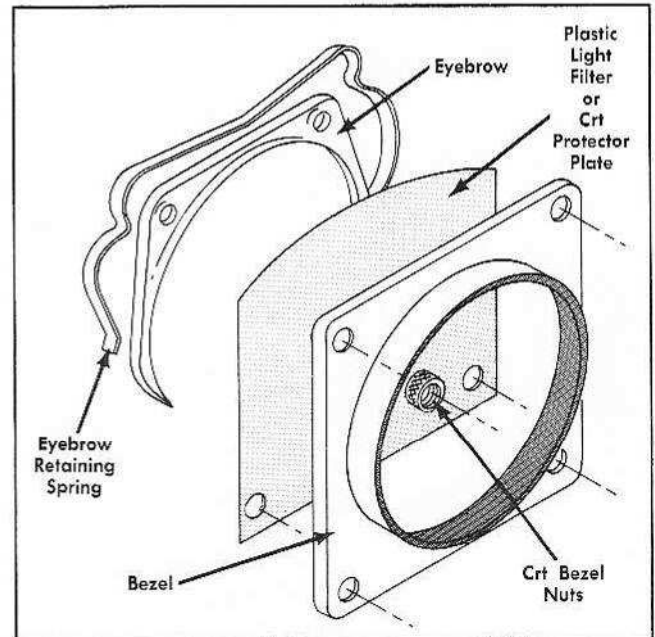

Fig. 4-3. Crt bezel and eyebrow arrangement.
2. Remove plastic eyebrow and retaining spring from the top of the crt (see Fig. 4-3).